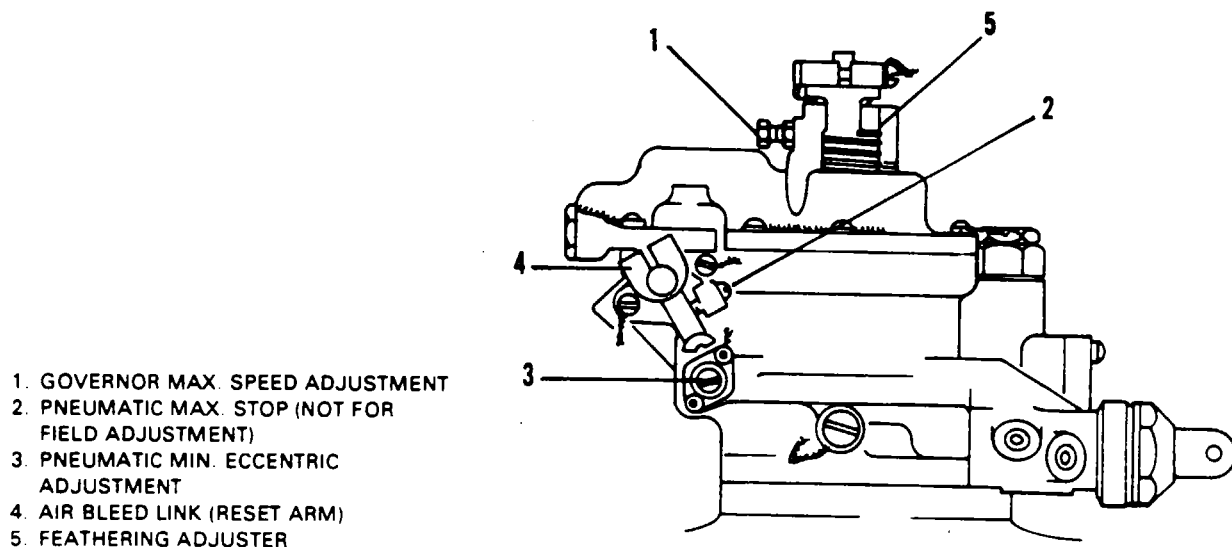

Figure 61-3. Propeller Governor
CONSTANT SPEED GOVERNOR ADJUSTMENTS. (Refer to Figure 61-3 and Chapter 76.)
6. Loosen the locknut and adjust the governing maximum speed adjuster (1. of Figure 61-3) to obtain the desired Np. Counterclockwise rotation of screw increases speed. Tighten the locknut when adjustment is completed.
Do not disturb the pneumatic maximum adjustment (2, of Figure 61-3).
11. Restart and run engine. With the propeller control lever set in fine pitch, advance the power control lever sufficiently to obtain a constant speed condition and check that Np governs in a range of 2068 to 2112 rpm. Adjust the pneumatic minimum eccentric adjuster (3, of Figure 61-3), as necessary to meet this requirement.